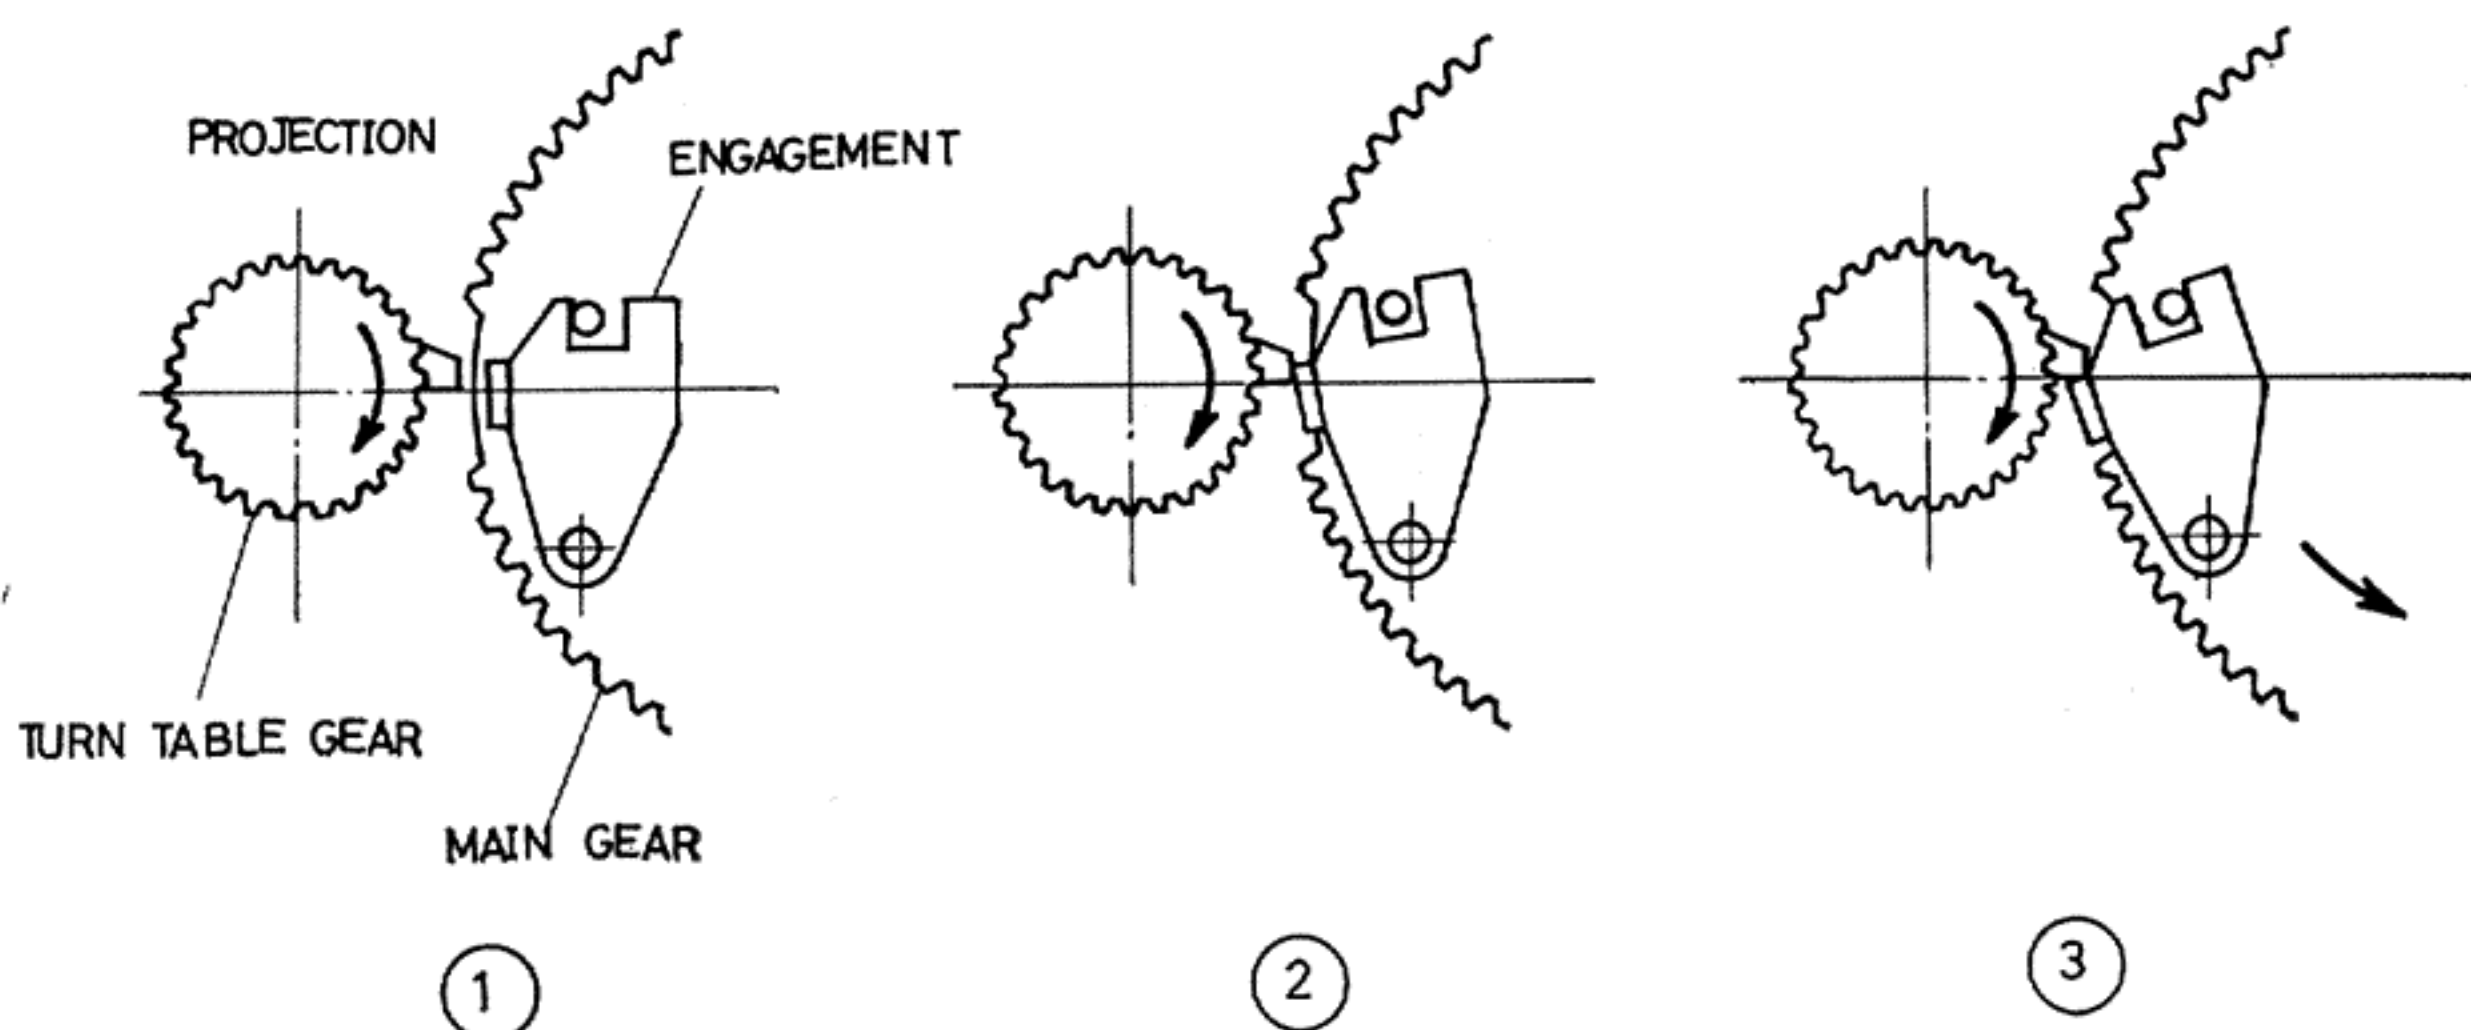

Fig. 6
CHANGE CYCLE START (Fig. 6)
- b. The Engagement of Main Gear interlocks with the Projection of Turntable Gear (Fig. 6) revolving the Main Gear in the direction shown by the arrow. This starts the Change Cycle.
- c. ① of Fig. 6 indicates the position of Main Gear at rest.